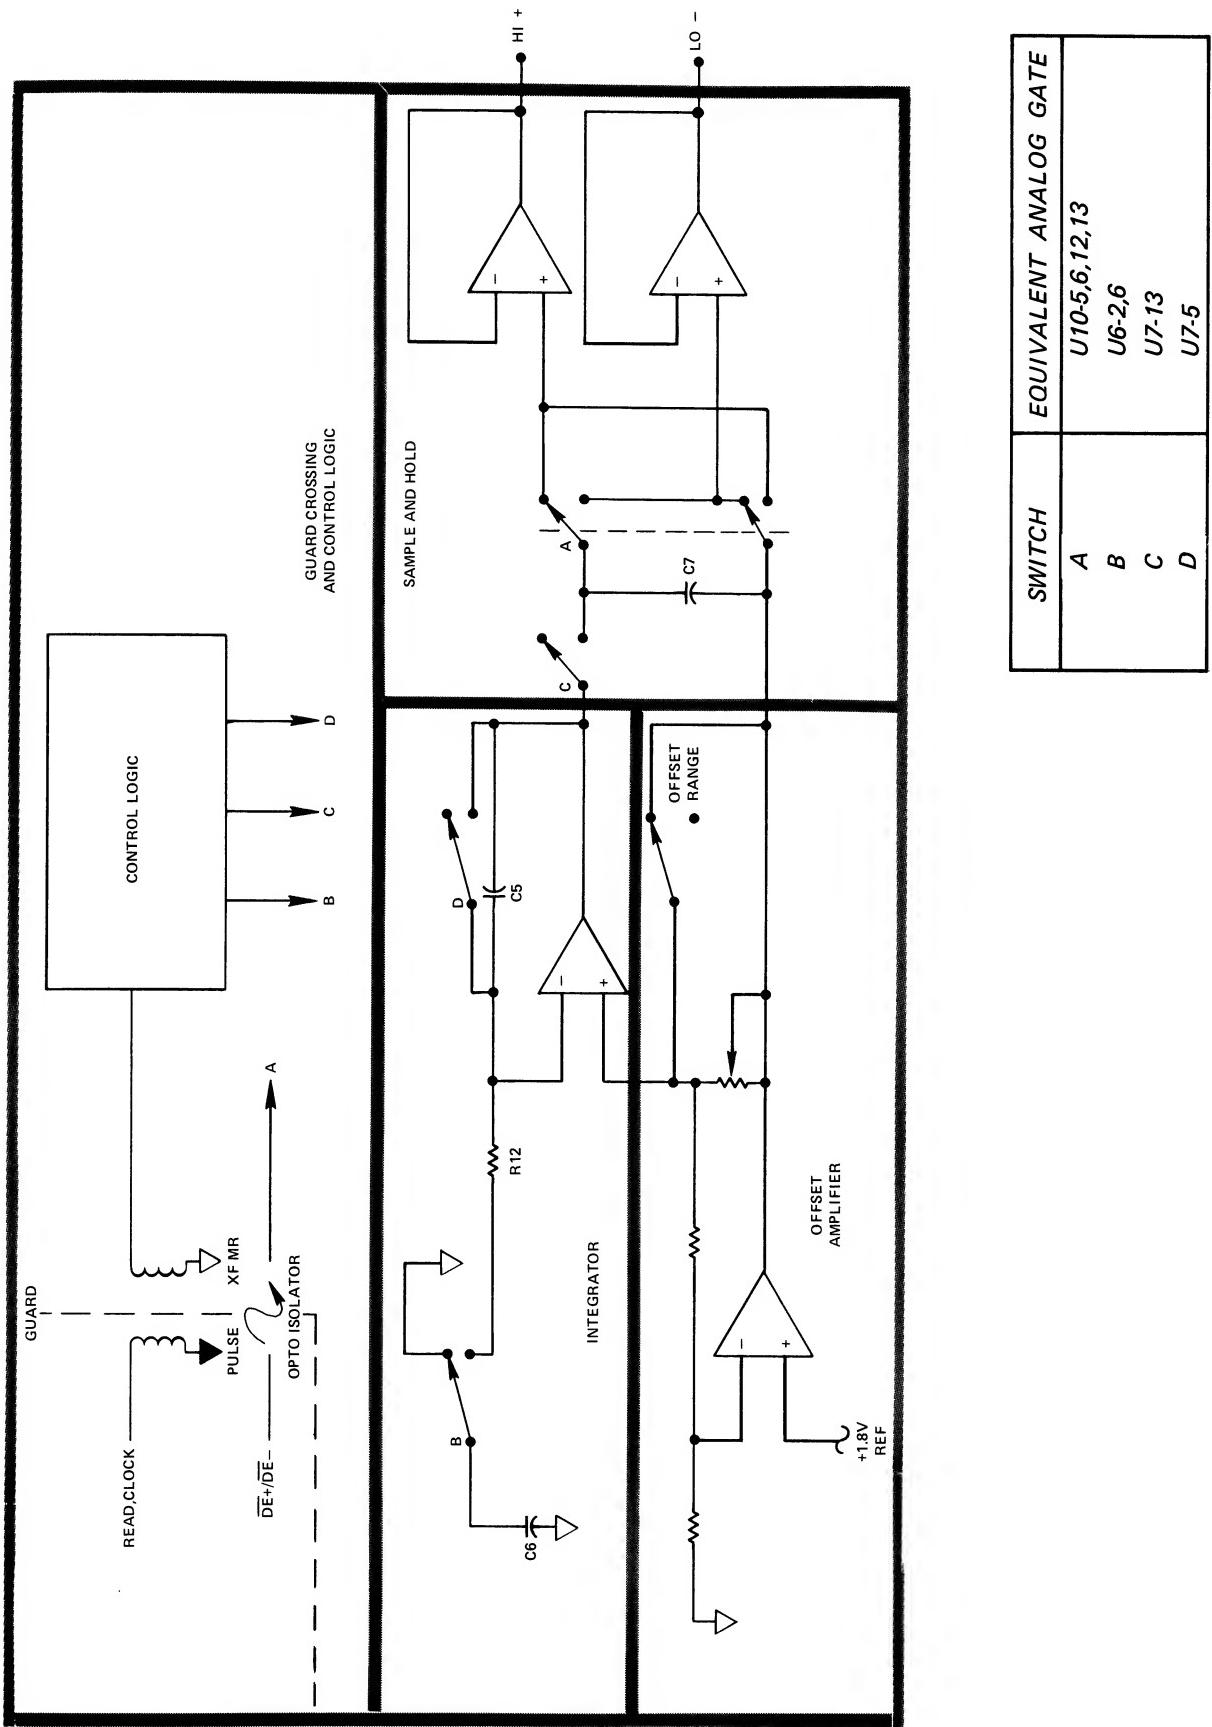
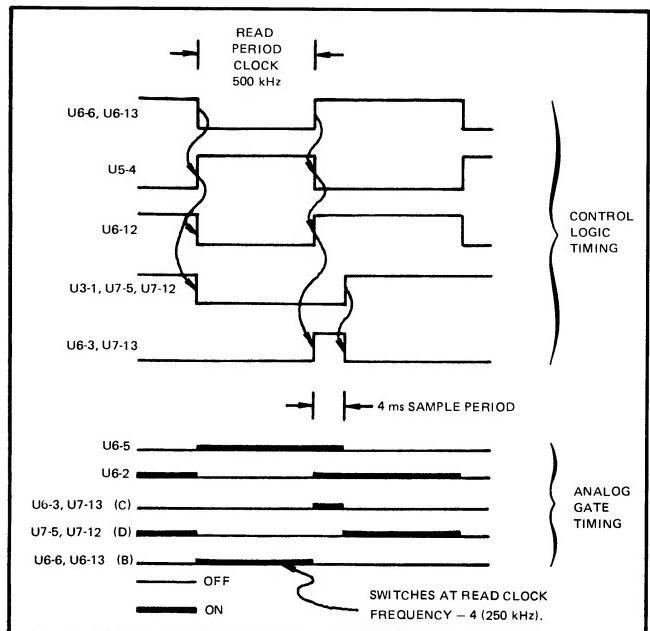

Figure 6-11. AOU FUNCTIONAL BLOCK DIAGRAM
Figure 6-12. AOU TIMING DIAGRAM
- 6-82. The function of the AOU is to convert the read clock from the 2100A into an analog output voltage which is proportional to the displayed temperature. Control signals and operating power for the AOU are transferred through a guard crossing to ensure isolation between the 2100A inputs and the AOU outputs. A functional block diagram of the AOU is given in Figure 6-11 and a timing diagram for the AOU is shown in Figure 6-12.
- 6-83. Input data to the AOU is received in the form of the read clock and the $\overline{DE} + \overline{DE}$ – reference command, both of which are generated during the 2100A read period. The read clock is coupled across the guard to the Control Logic where it is conditioned for use in driving analog gates B, C and D (shown in Figure 6-11 as switches). The $DE +$ and $\overline{DE} -$ signals are also coupled across the guard and used to operate the polarity analog gate (switch A). Initial operation begins with switches A, B, C and D in the positions shown.